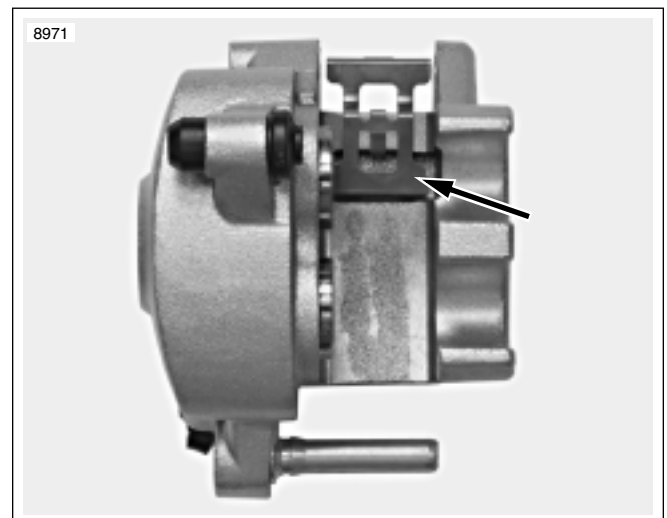

Figure 1-31. Front Caliper Pad Spring
- See Figure 1-31. When replacing front brake pads, make sure pad spring does not become dislodged and fall out. If it does, you will have to reinstall it before installing new pads.
5. Screw (2)